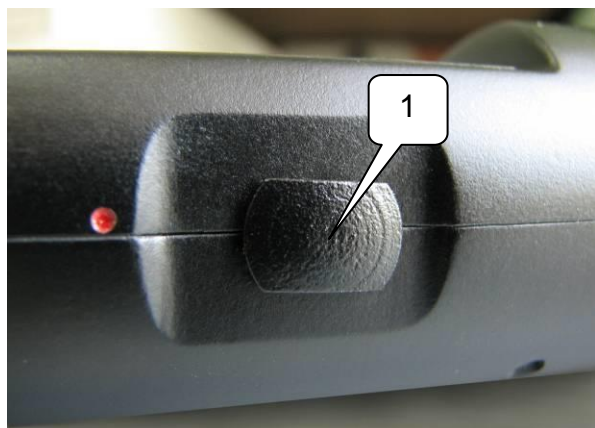

Fig. 5
**4.4.** On the side surface of the control panel (see 1 in Fig. 5) a slide-type power switch is placed. A slide position corresponding to «ON» is marked by a contrast point. Each time before operating the device it is recommended to make the full charging of the battery.
**6.2.** To start operation set the battery and turn «LORNET-24» on by the power switch placed on the control panel (Fig.5). The 2nd and 3rd indicators on the control panel will light up, indicating that the detector has been powered on.